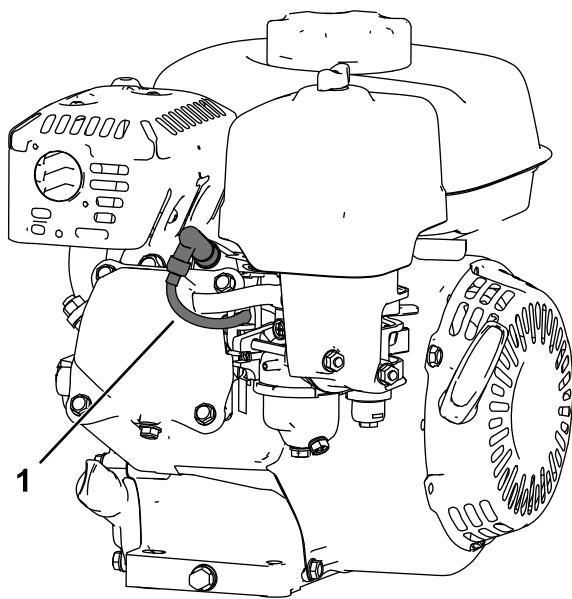

Figure 15
5. Disconnect the spark-plug wire (Figure 15).